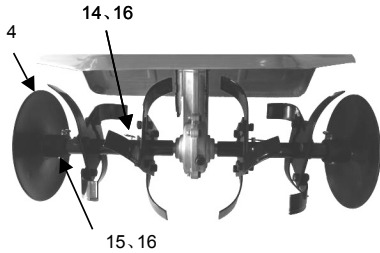

Figure 4
2. Refer to Figure 4 to install the blade disc and blade assy.